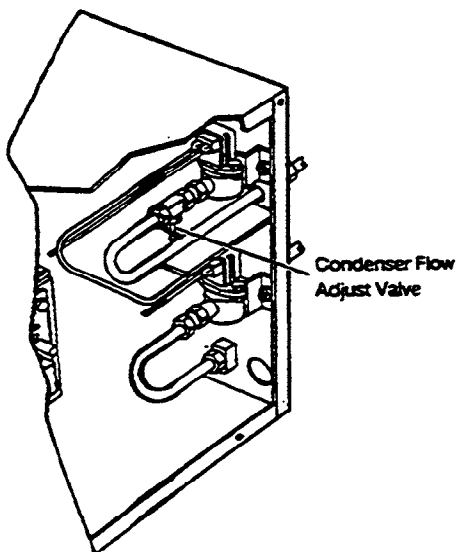

Figure 2-19. Condenser Flow Adjust Valve
4. Refer to Figure 2-19 and adjust the condenser flow adjust valve until the water flow out of the drain pipe is lukewarm.